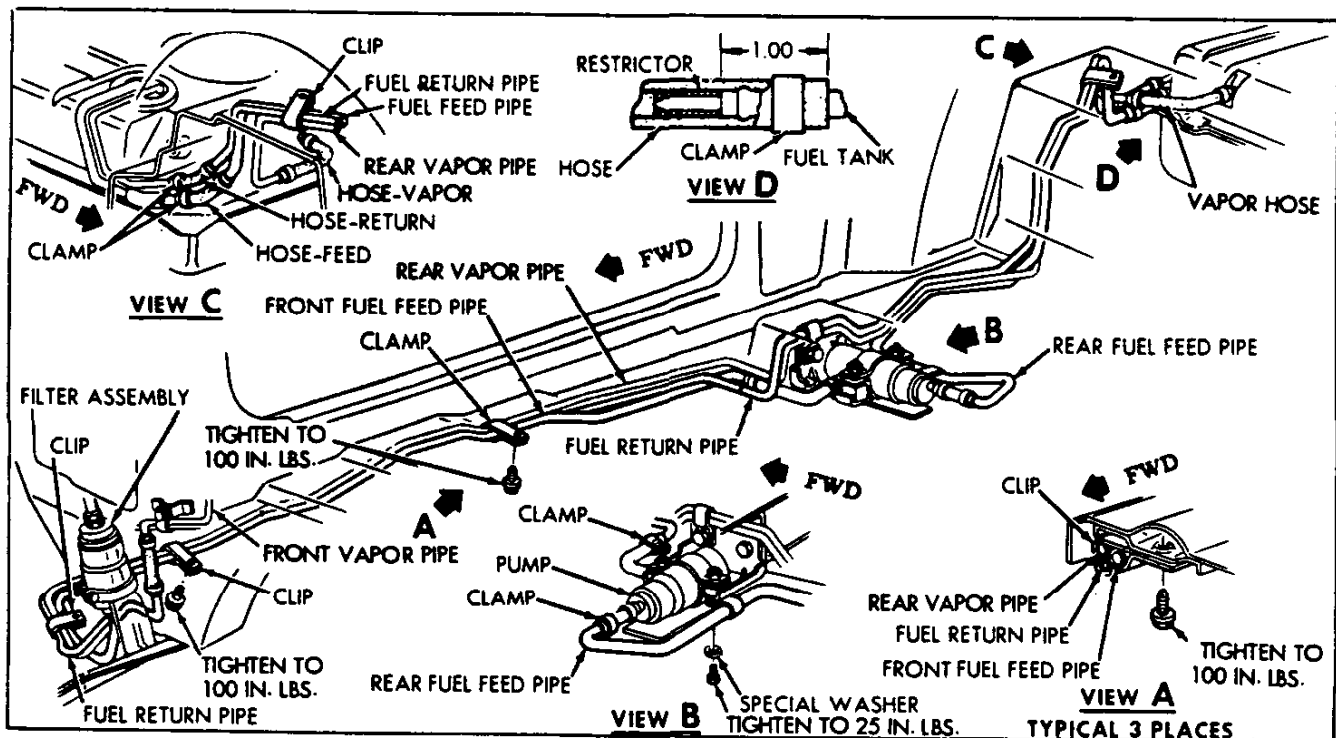
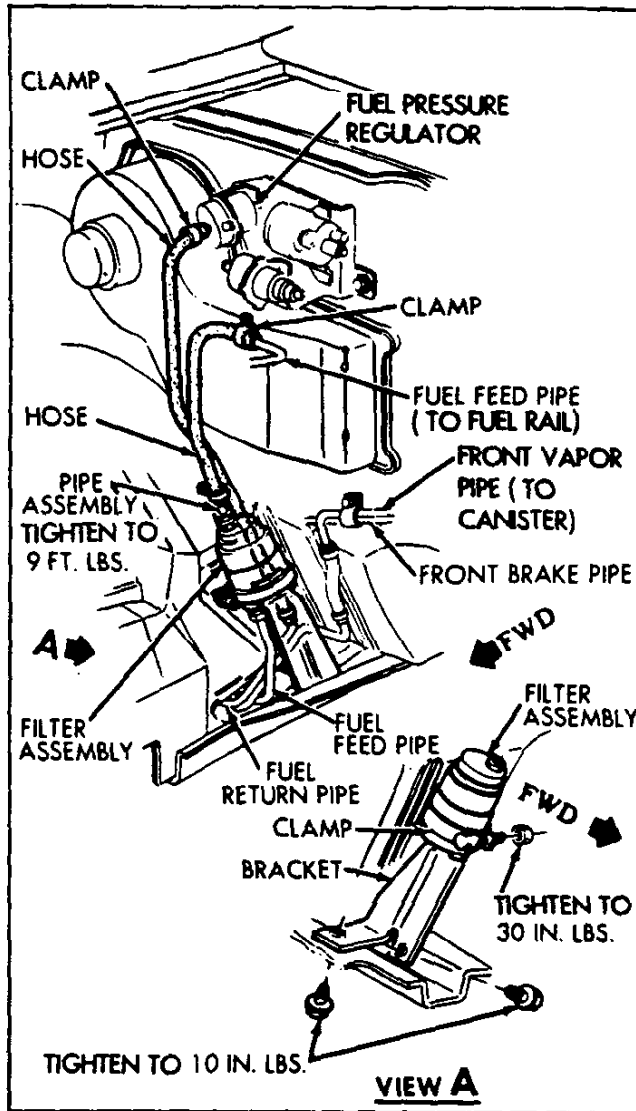

Fig. 3 - Fuel & Vapor Pipes
Figure 4 - Fuel Filter Assembly
4. Disconnect fuel feed and return hoses at gauge unit pickup pipes (fig. 3).
5. Disconnect tank vent hose at fuel tank (fig. 3).
The fuel feed, fuel return and vapor pipes are routed along the right underbody (fig. 3). They are secured with clamp and screw assemblies. Flexible hoses are located at the fuel tank, fuel pressure regulator, filter and rear vapor pipe-to-front vapor pipe. Refer to Section 6M for replacement of the external high pressure fuel pump. Refer to figure 4 for replacement of fuel filter assembly.